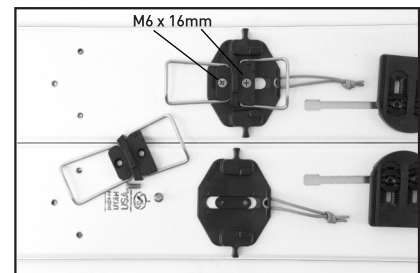

Figure 6
Place Climbing Pad/ Wire assemblies over the Heel Lockdown Bases and Locate over the appropriate inserts. Secure each assembly with (2) M6 x 16mm screws. **(See Figure 6)**